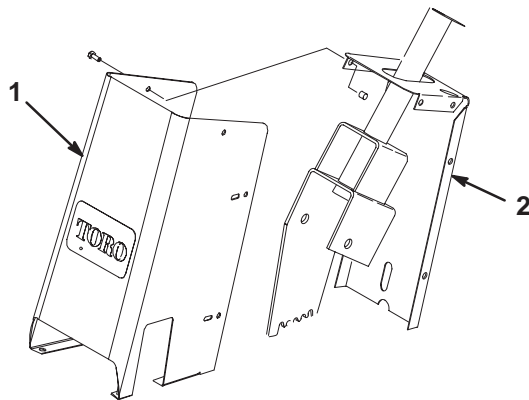

Figure 1
1. Remove the steering tower housing (Fig. 1).
17. Install the steering tower housing (Fig. 1).